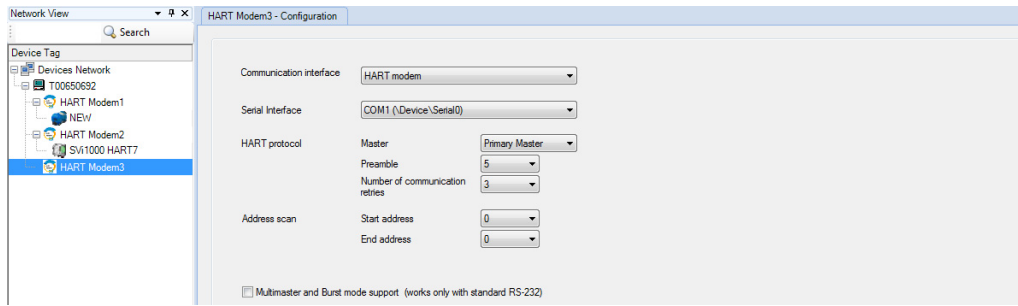

Figure 5 HART Modem Configuration Tab
8. Click **OK** again to add the *HART Modem* to *Network View* and Figure 5 appears.